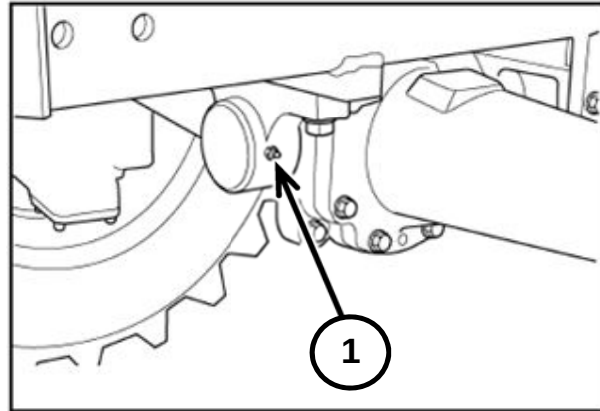
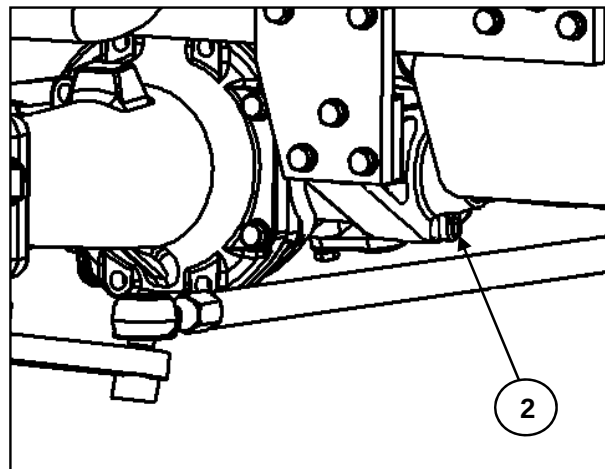

Figure 3-56
Figure 3-57
NOTE: The center housing pivot points (1) in Figure 3-56 (front side) and (2) in Figure 3-57 (rear side) should be greased after every 50 hours of operation under normal conditions. Under extremely dirty conditions, lubrication should be carried out more frequently than every 50 hours. Use a good quality, multipurpose, lithium-base grease.